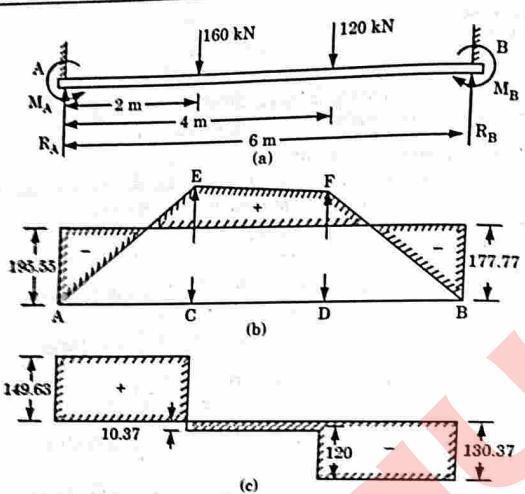

Fig. 2.22.1.
7. Now the BM diagram due to vertical loads can be drawn as shown in Fig. 2.22.1(b). In the same figure the BM diagram due to fixed end moments is also shown.
Now SF diagram can be drawn as shown in Fig. 2.22.1(c)